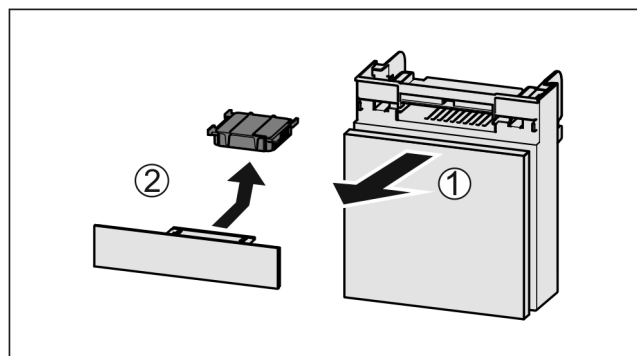

Fig. 85
- ▶ Pull out the compartment Fig. 85 (1).
- ▶ Remove the carbon filter Fig. 85 (2).